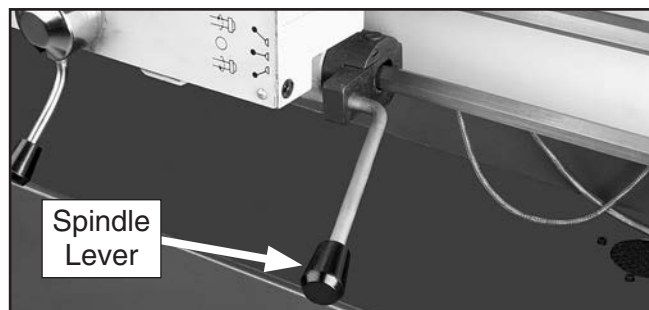

Figure 30. Spindle lever in down (forward) position.
10. Turn the spindle **ON** by pulling the spindle lever out and moving it down (see **Figure 30**). Verify that the machine is operating correctly.